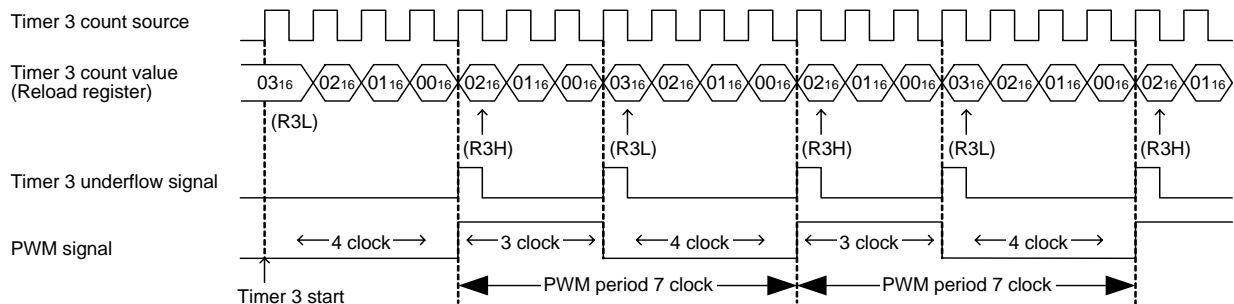

**Fig 33. Timer count start timing and count time when operation starts**
Count starts from the first rising edge of the count source (2) in Figure 33 after prescaler and timer operations start (1) in Figure 33.
Time to first underflow (3) in Figure 33 is shorter (for up to 1 period of the count source) than time among next underflow (4) in Figure 33 by the timing to start the timer and count source operations after count starts.